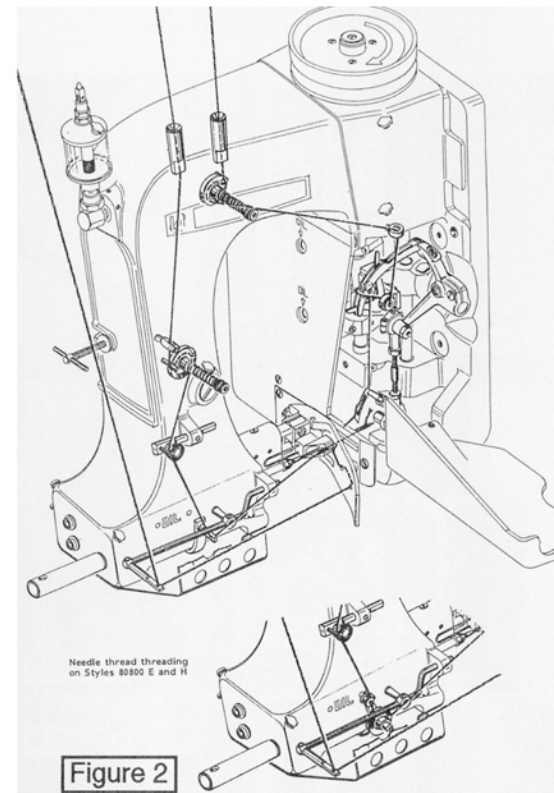

Figure 2
2) Next check the machine for proper threading, **Figure 2**. Im-